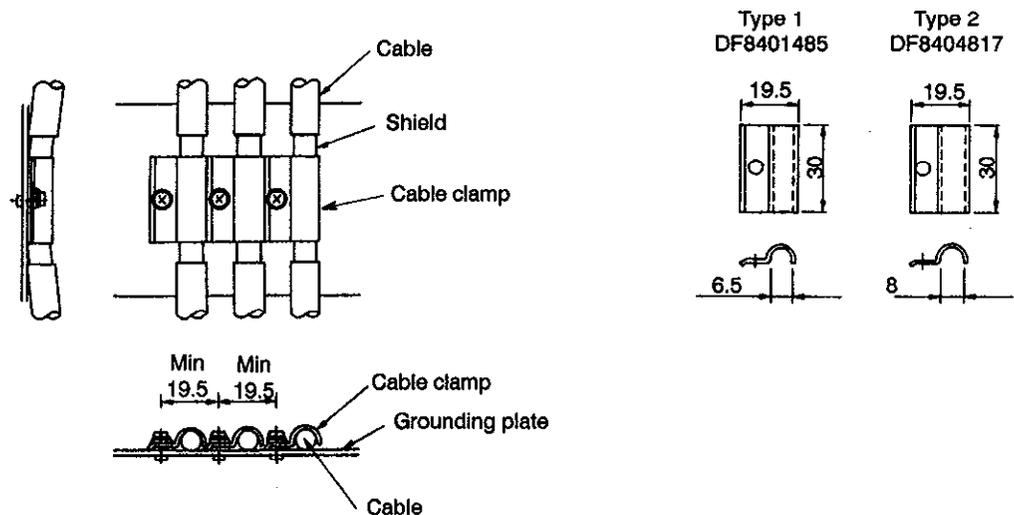

Fig. 2.3
Clamp the cables indicated below that connect the CNC operation panel and the CPU unit securely from cables to be connected to YASNAC to the grounding plate by using “cable clamp metal fitting” as shown in Fig. 2.3.
- Remove part of the cable sheath as shown in Fig. 2.3 to expose the shield, and clamp the part to the grounding plate using a cable clamp.